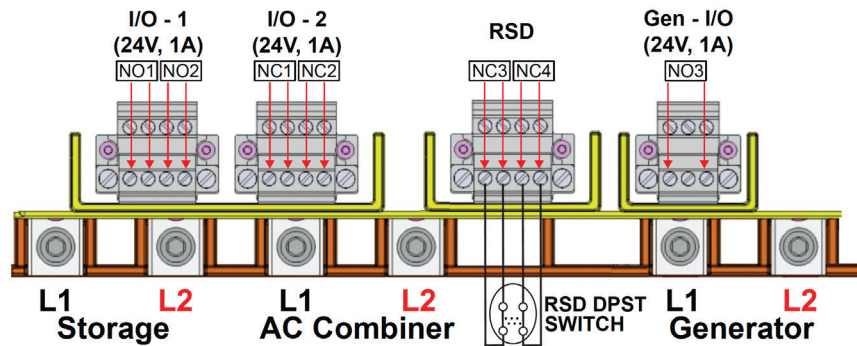

Figure 3 : IQ System Controller 2 terminals
- a. Check the voltage across the two screws of the NC3 terminal (refer to Figure 3).
- b. Check the voltage across the two screws of the NC4 terminal (refer to Figure 3).